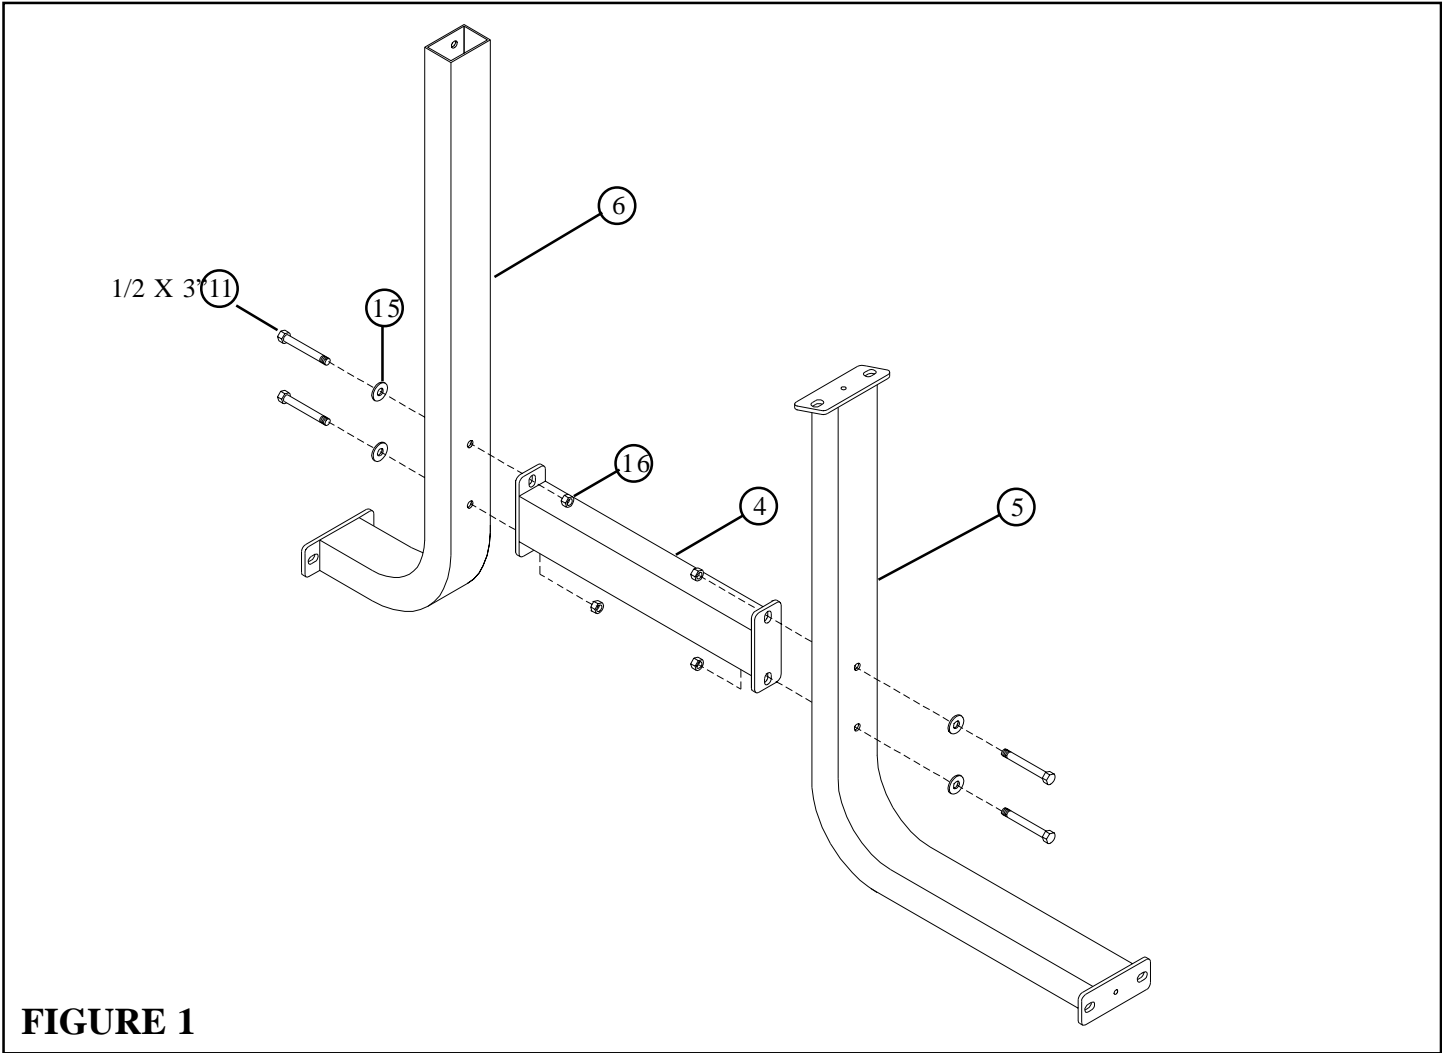

FIGURE 1
- **SECURELY** assemble the CROSS BRACE (4) to the FRONT and REAR UPRIGHTS (5 & 6) using four 1/2 X 3" BOLTS (11), four 1/2" WASHERS (15) and four 1/2" LOCK NUTS (16) as shown in FIGURE 1.